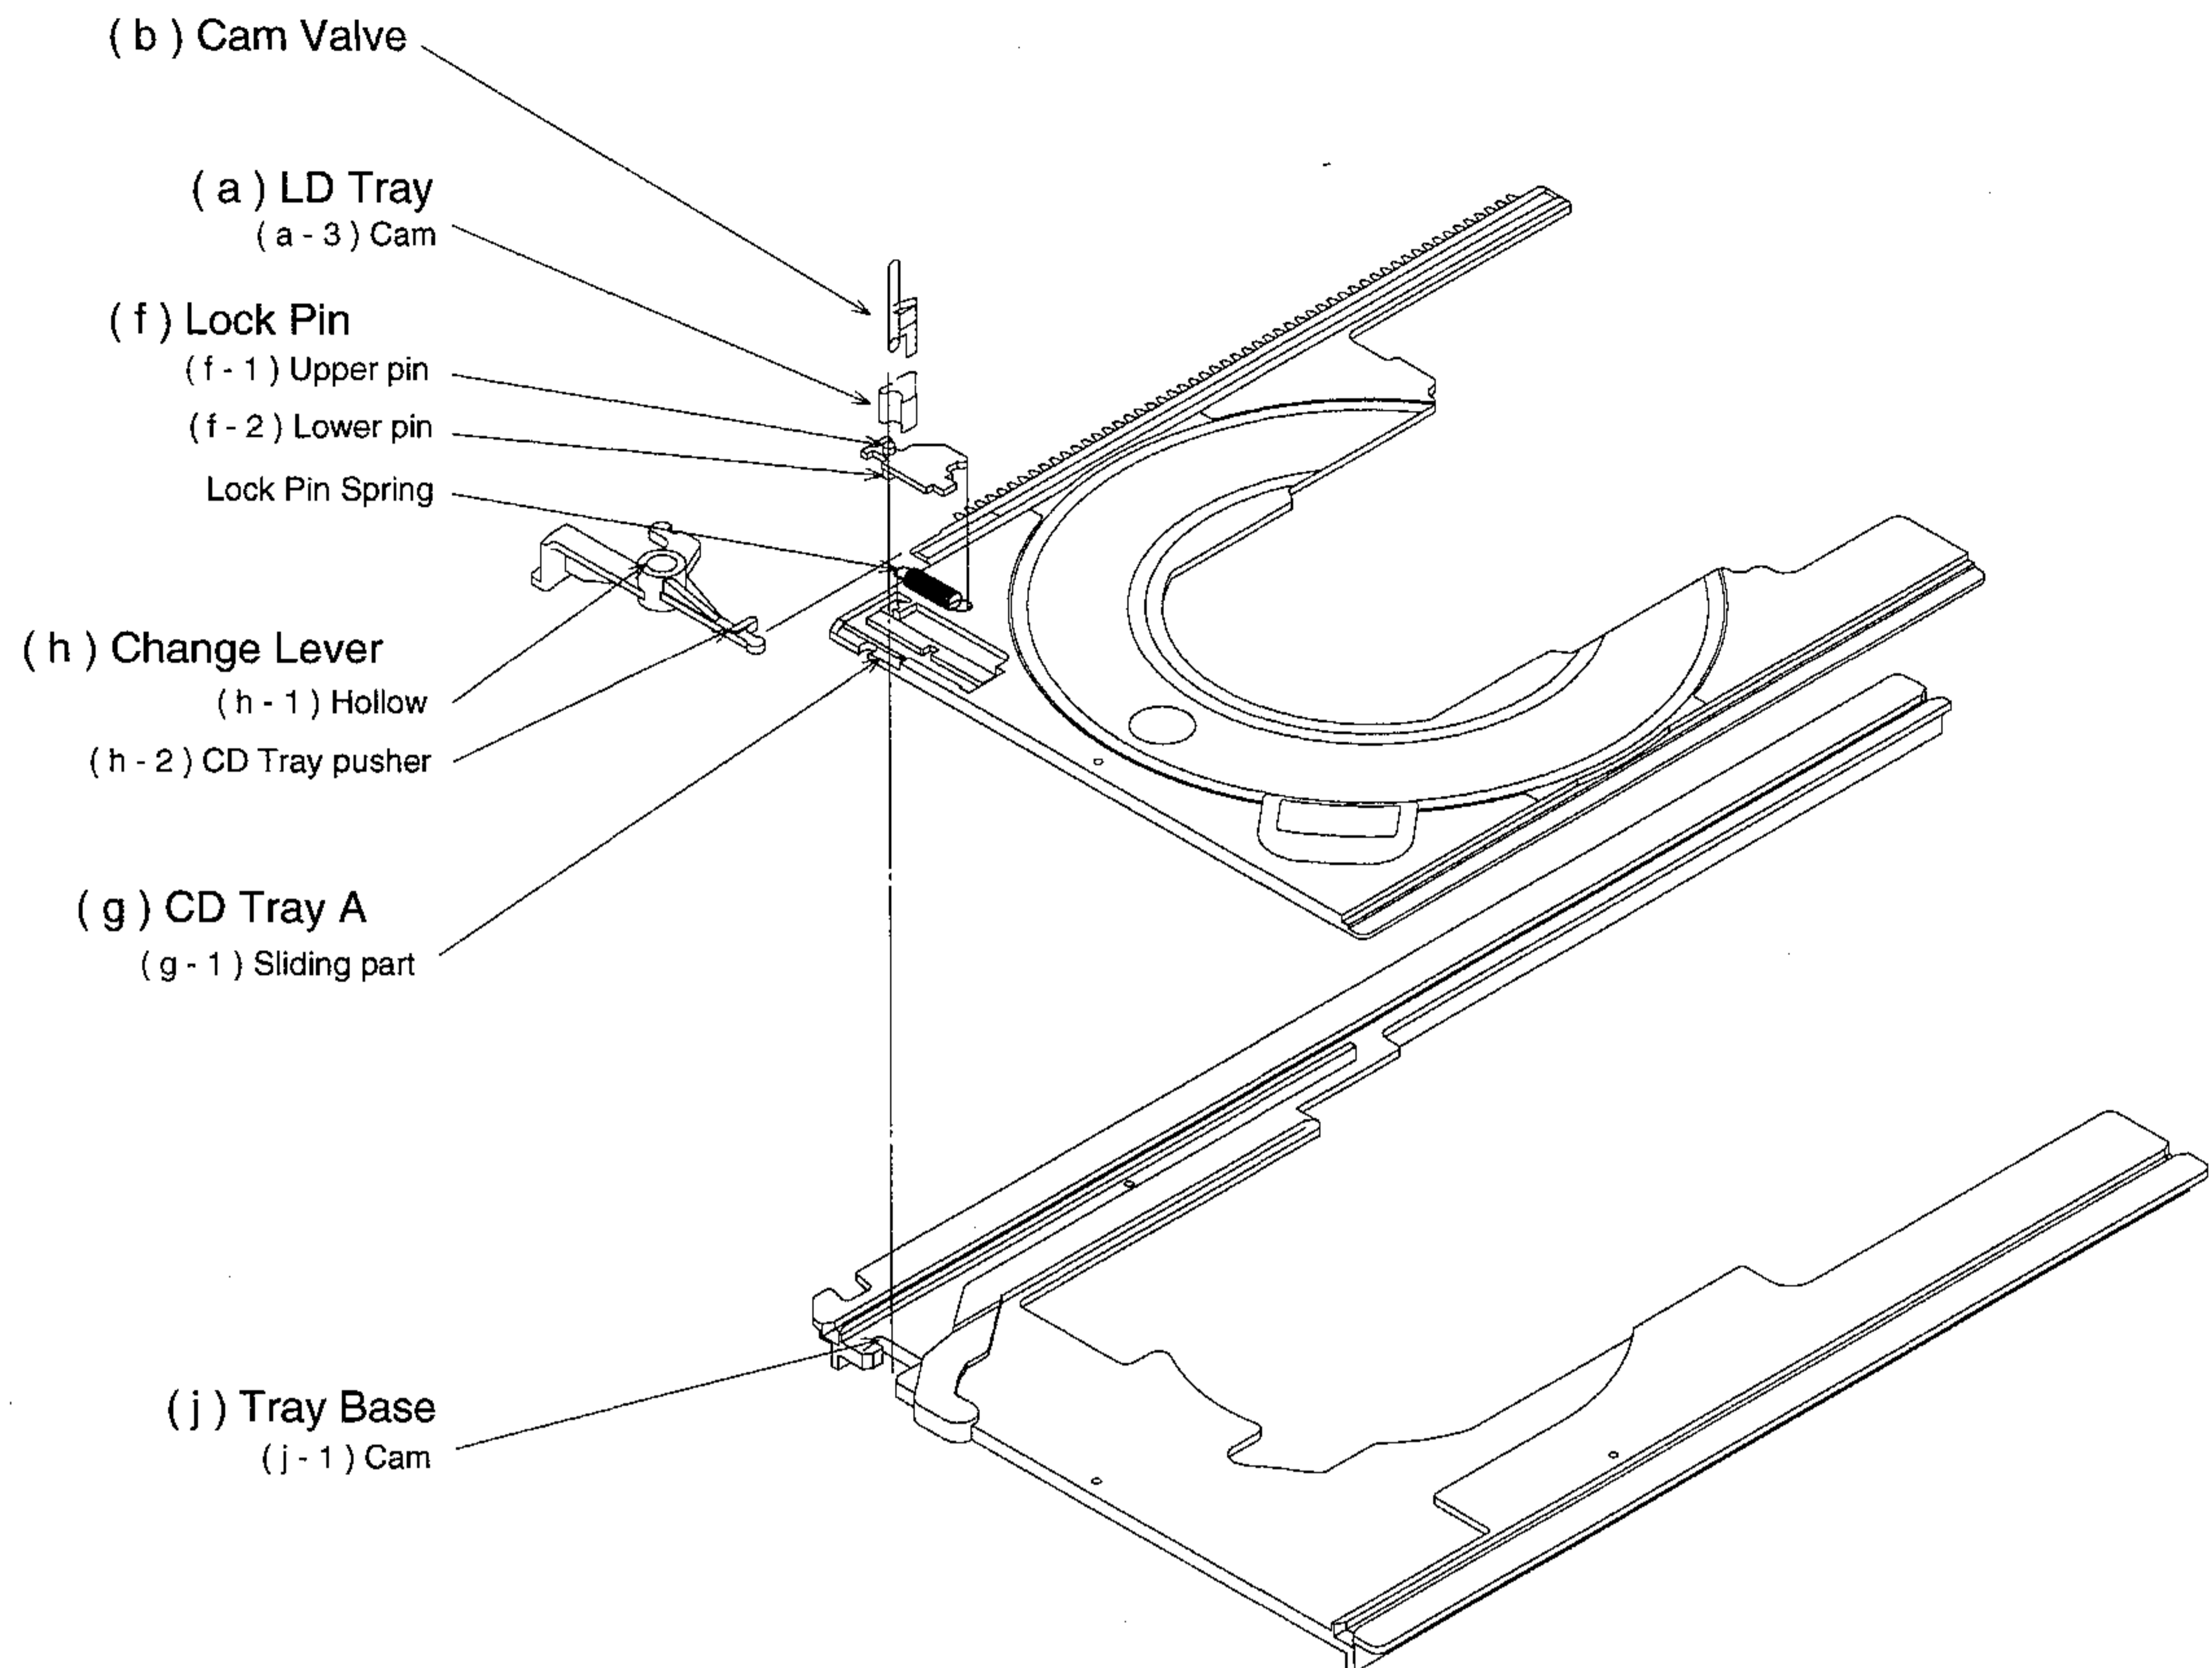

Fig.2-2 Configuration of the Tray Assy in Detail (Top View)
- **(f) Lock Pin** consist of a (f-1) Pin in contact with the (a-3) Cam and a (f-2) Pin in contact with the (j-1) Tray Base cam. (f) Lock Pin engage a (g-1) Sliding Part of (g) CD Tray A and can move in the directions of left and right. Force is applied to the left edge of the (f) Lock Pin by the Locking Pin Spring. (See Fig. 2-2 for details)
This section outlines operation of forward/backward movement of CD Tray A and B (see Fig. 2-2 and 2-3).